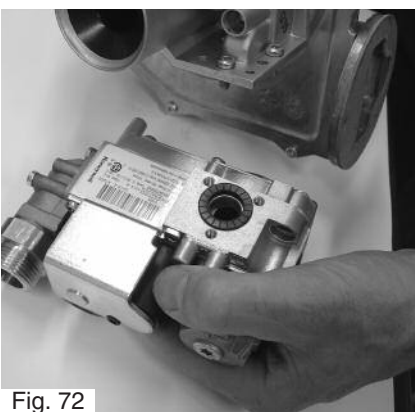

Fig. 72
5. Remove the gas valve from the venturi. (Fig. 72);